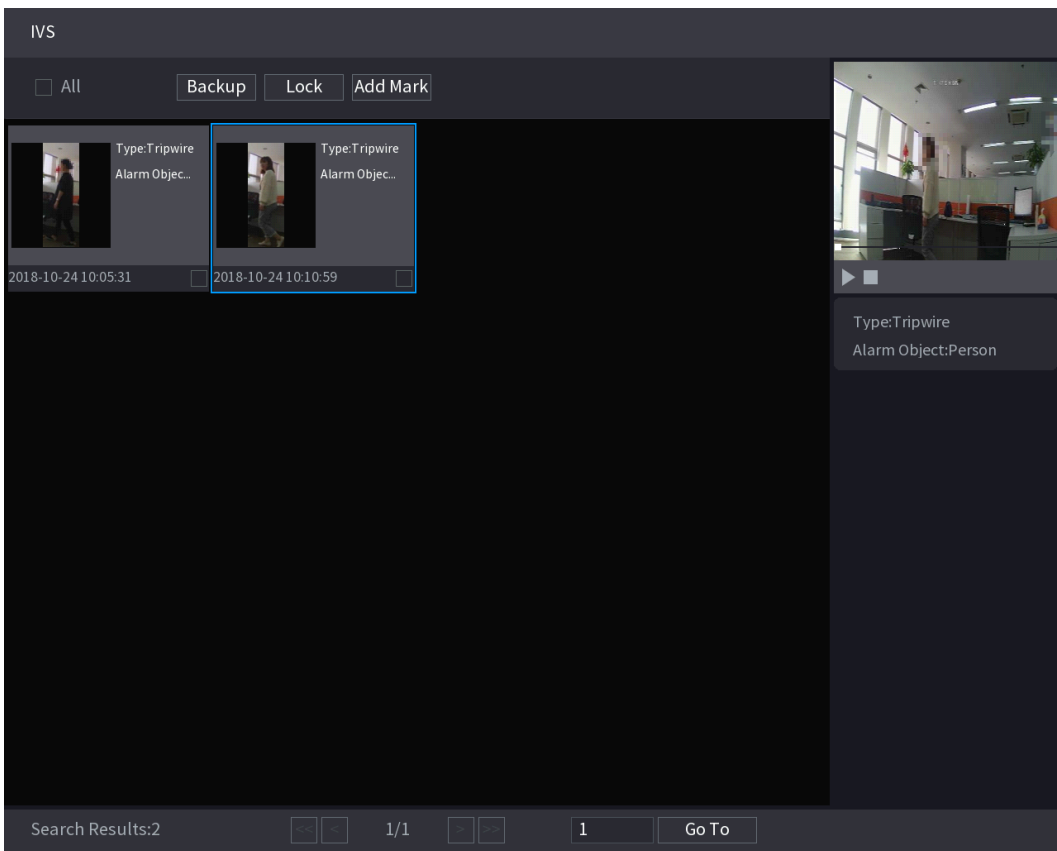

Figure 5-186
**Step 4** Click the picture that you want to play back. See Figure 5-186.